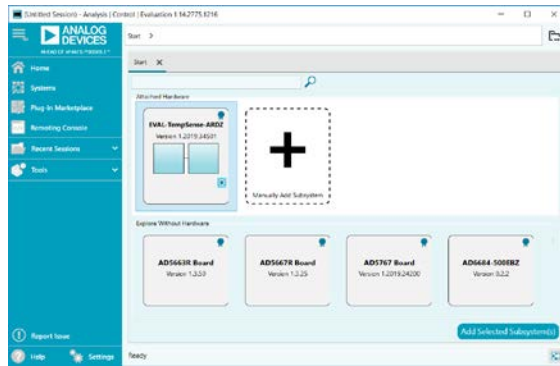

Figure 7. Hardware Connected
When the EVAL-ADT7420ARDZ board hardware is connected to the PC with a USB cable, the corresponding plugin appears in the **Attached Hardware** section of the start-up window, as shown in Figure 7.
3. Run the ACE software. The EV-TEMPSENSE-ARDZ plugin appears in the **Attached Hardware** section of the **Start** tab (see Figure 7).